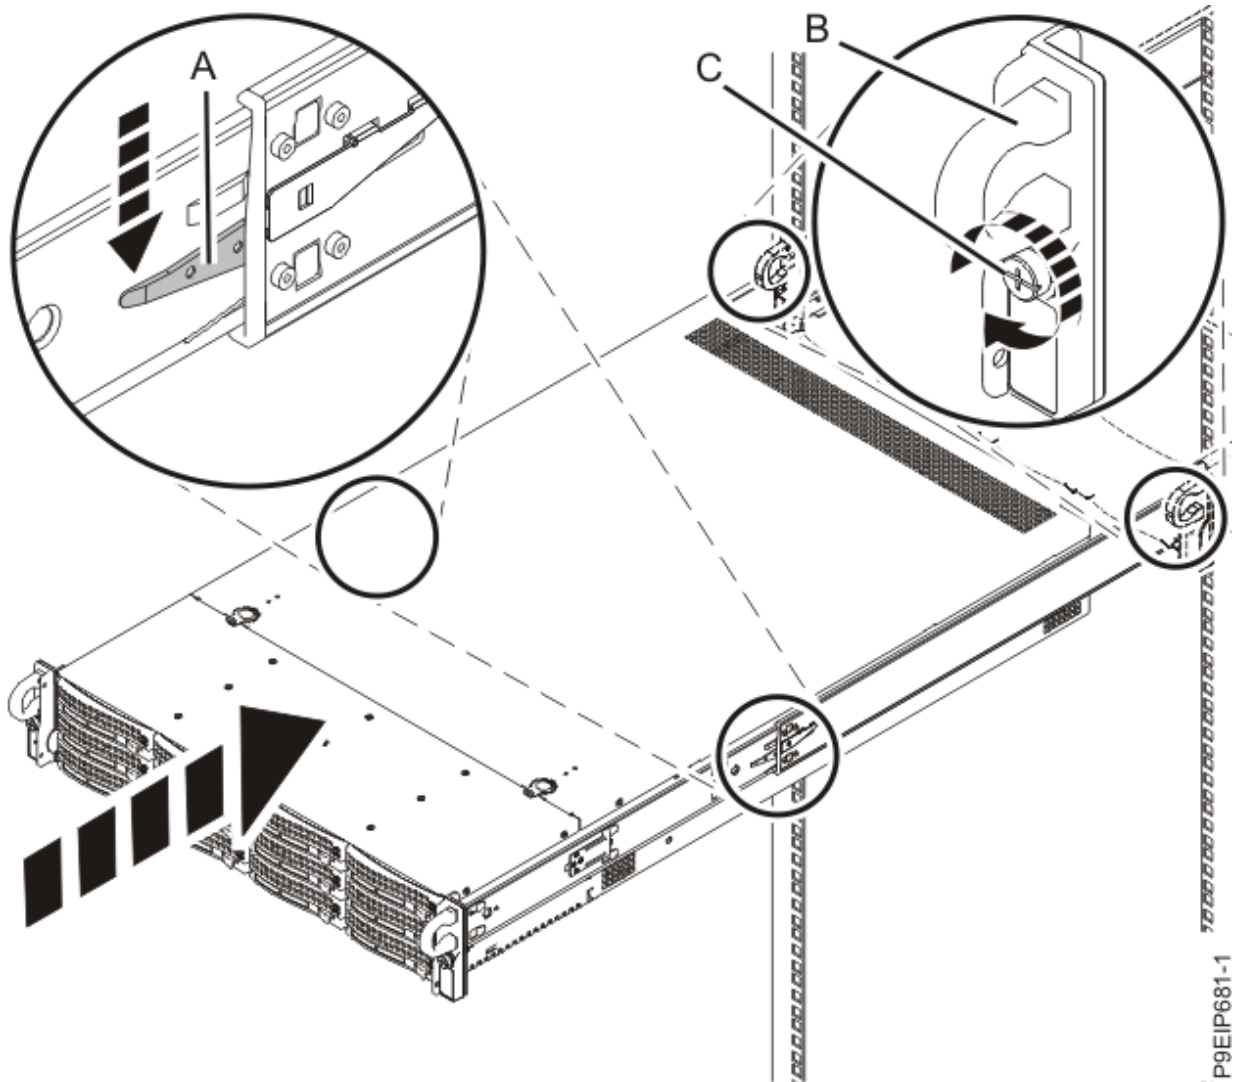

Figure 73. Placing the system into the operating position
1. Release the rail safety latches (**A**) as shown in Figure 73 on page 91, then push the system fully into the rack.